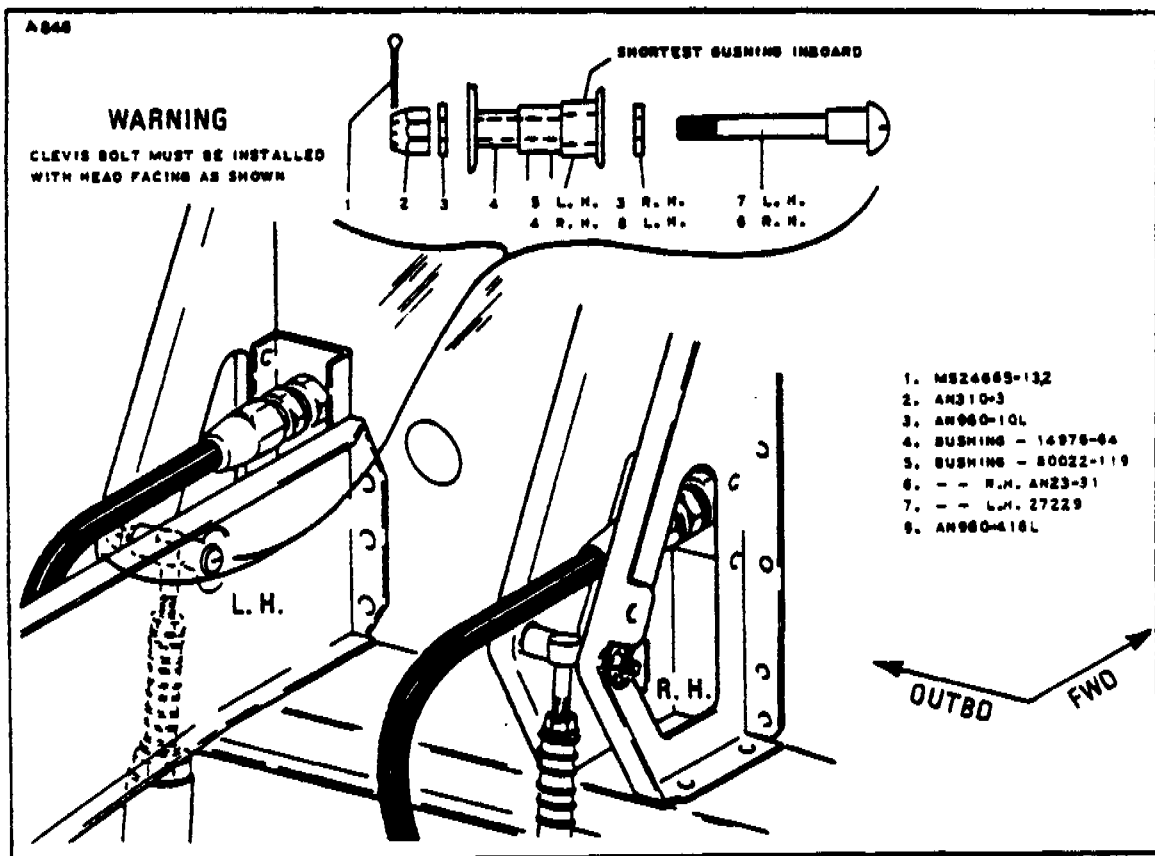

FIGURE 6-37A. BRAKE CYLINDER INSTALLATION
6-106. Installation Of Brake Master Cylinder. (Refer to Figure 6-37A.)
a. Position the cylinder in its mounting bracket and insert the upper mounting clevis bolt from the inboard side of each cylinder as shown in Figure 6-37A, and secure with washer, nut and cotter pin.
The upper mounting clevis bolts must be installed as shown in Figure 6-37A.